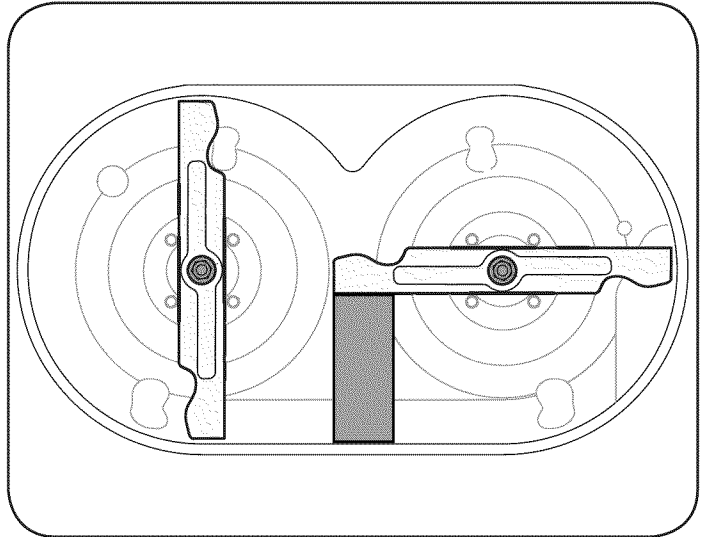

Figure 30
2. Place a block of wood between the center deck housing baffle and the cutting blade to act as a stabilizer. See Figure 30.